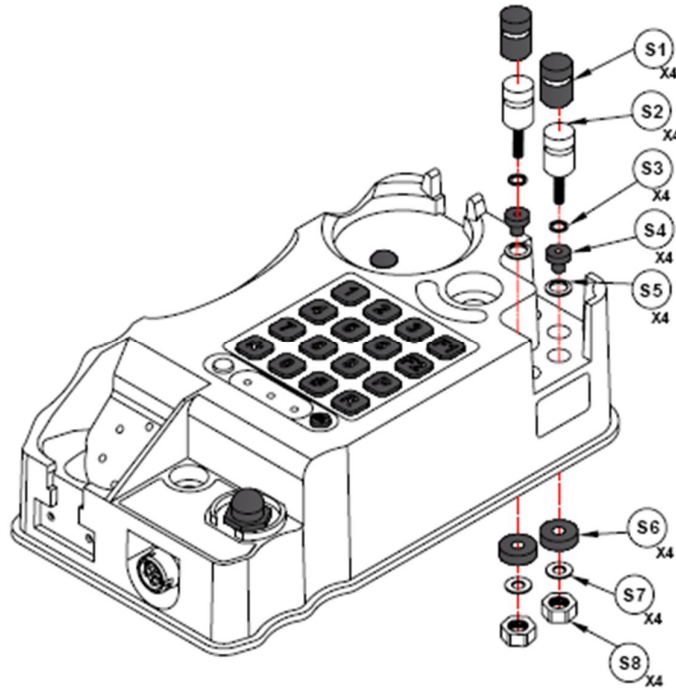

Figure 10 : Re-assembly of Binding post (Line Terminals)
- Remove the plain washer (marked as S7) and bush fixture for binding post (marked as S6) in the Figure 10.